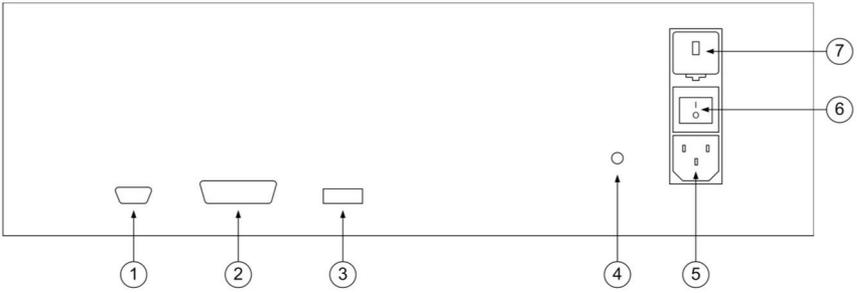

Figure 5 - Rear Panel
Figure 5 describes the rear panel layout.
- a) **Before** attaching the power cord to the rear connector, check that the line voltage selector is set appropriately for your location. The PD9500 is shipped from the factory with the line voltage set for the country of purchase. To verify the line voltage setting, check the indicator on the power line voltage selector and fuse compartment cover; see figure 5 in section 2.5 for the location.
- b) Once the voltage selection has been made, making sure that the power switch is off, connect the AC power cord to the PD9500; see figure 5 in section 2.5 for the location.